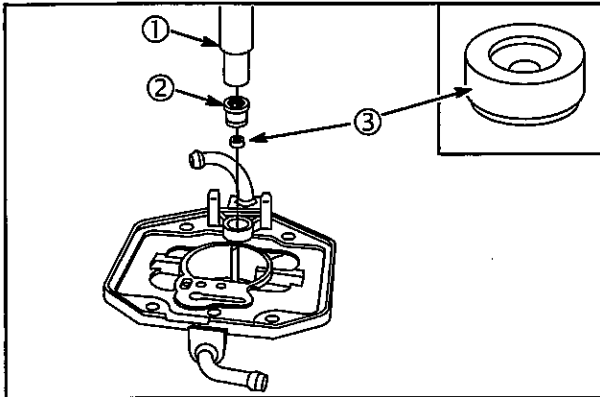

Fig. 106
1. Install new inlet seat (3) with chamfered end down, **Fig. 106**.
2. Press in new body (2) using Tool #19135 (1).